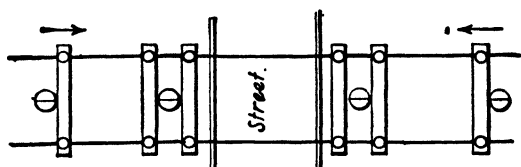

FIG. 11-40. Facing poles at a crossing. Adjacent poles face the crossing.
**Crossings.** Poles next to crossings should face the crossings (Fig. 11-40). The poles at the intersections are generally double armed as illustrated.